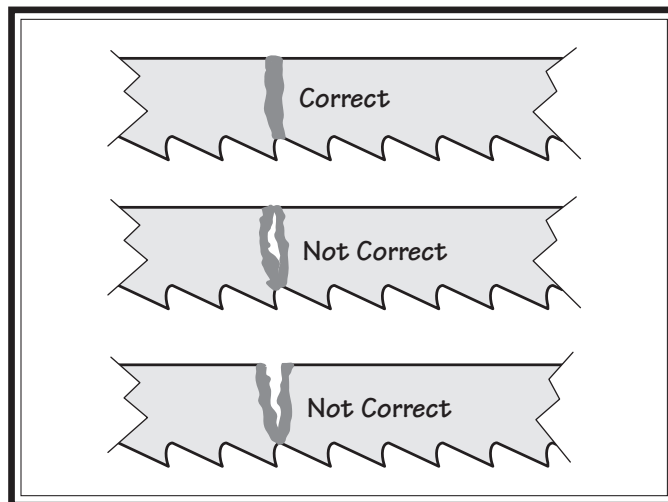

Figure 30. Blade welded joint examples.
11. Inspect the weld. The welded joint should be even across the width of the blade with no gaps (see **Figure 30**).